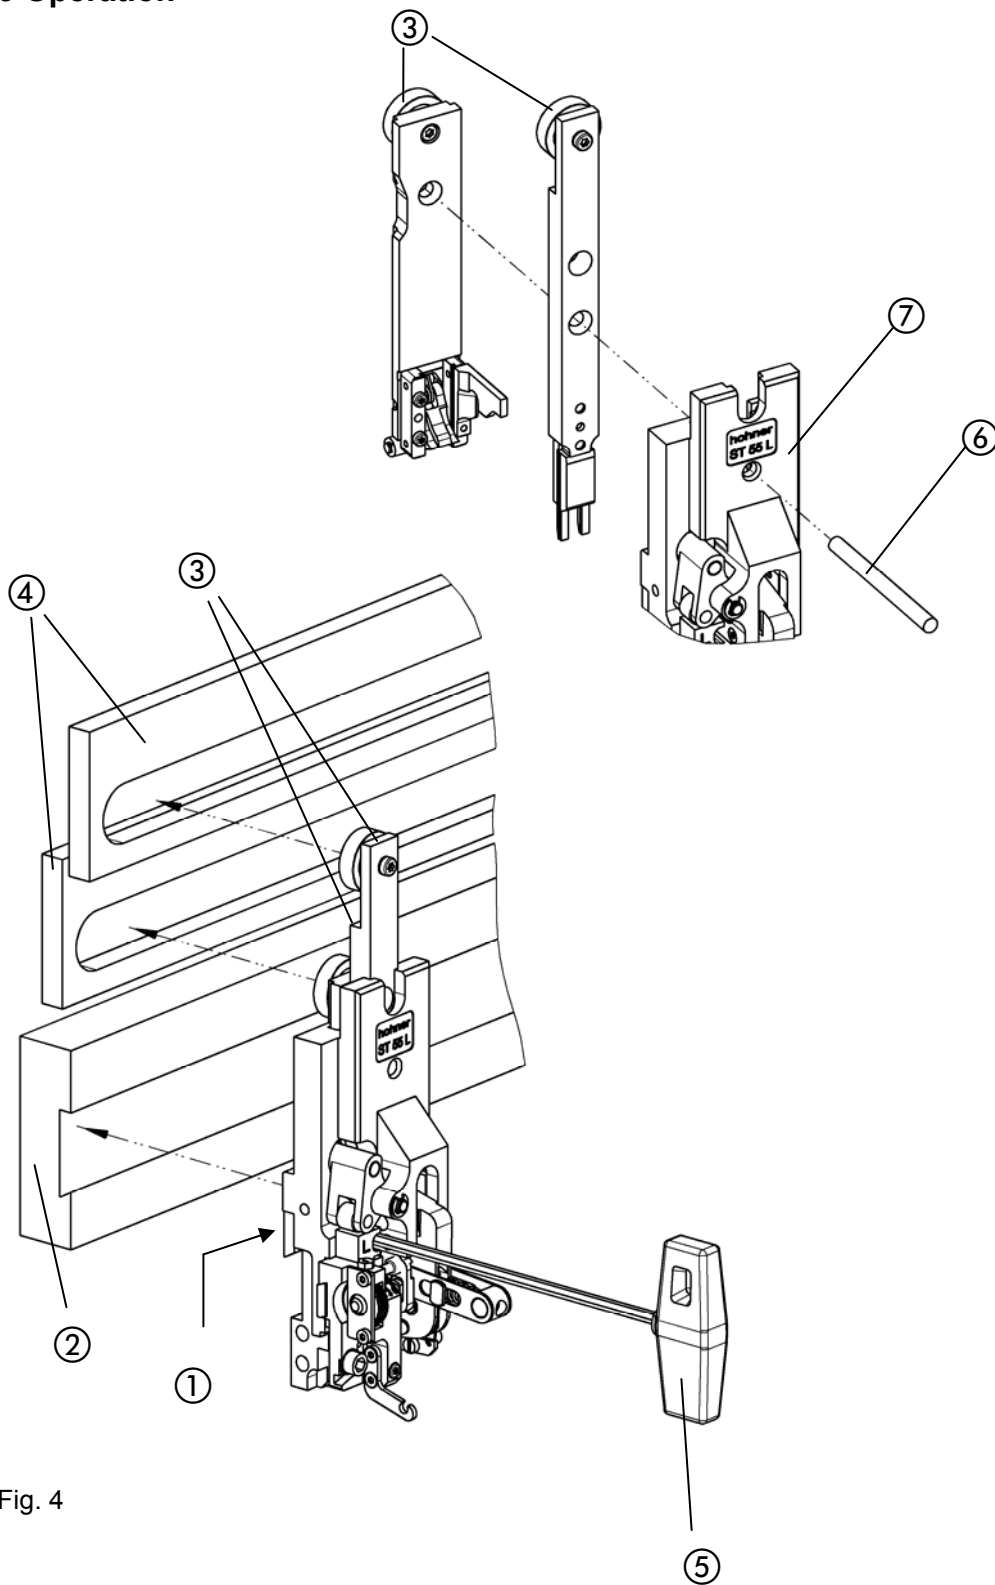

Fig. 4
- Fig. 4 -
- The mounting pin ⑥ should only be used for assembly and disassembly and must be removed **before** the stitching head is put into operation. Preserve the mounting pin carefully.
- Lead the mounting pin ⑥ through the stitching head housing and the two slides in order to fasten the basic mounting position **before removing the stitching head**.